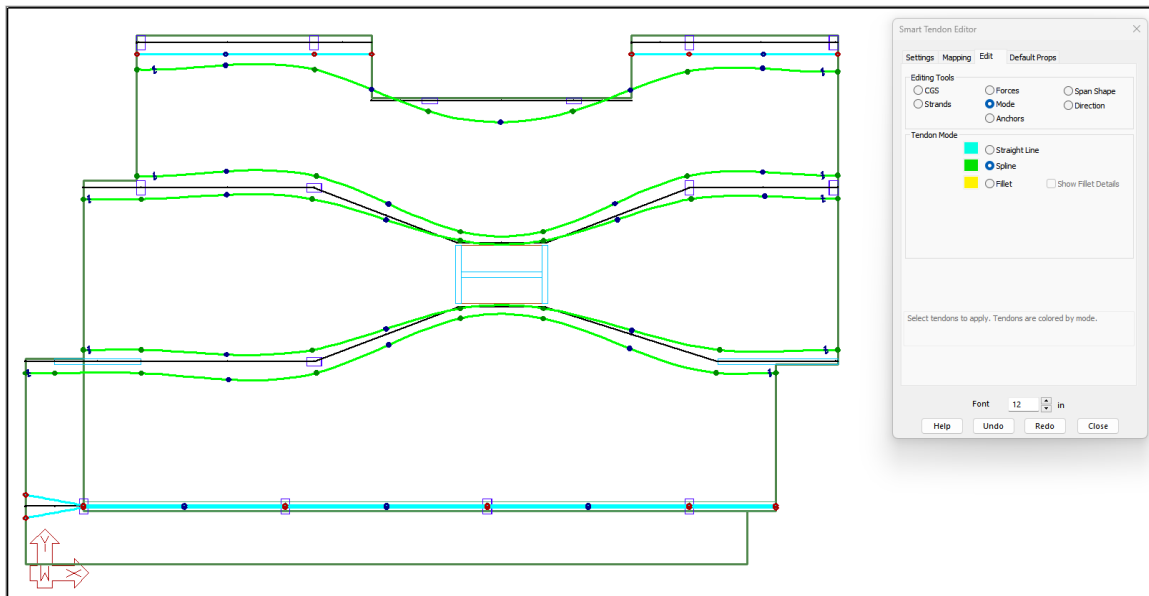

FIGURE 9-61
- Draw construction lines through all the tendons except the bottom two tendons which run through the beam and the top two tendons. Once this is done, your model will look as shown in **FIGURE 9-61**.